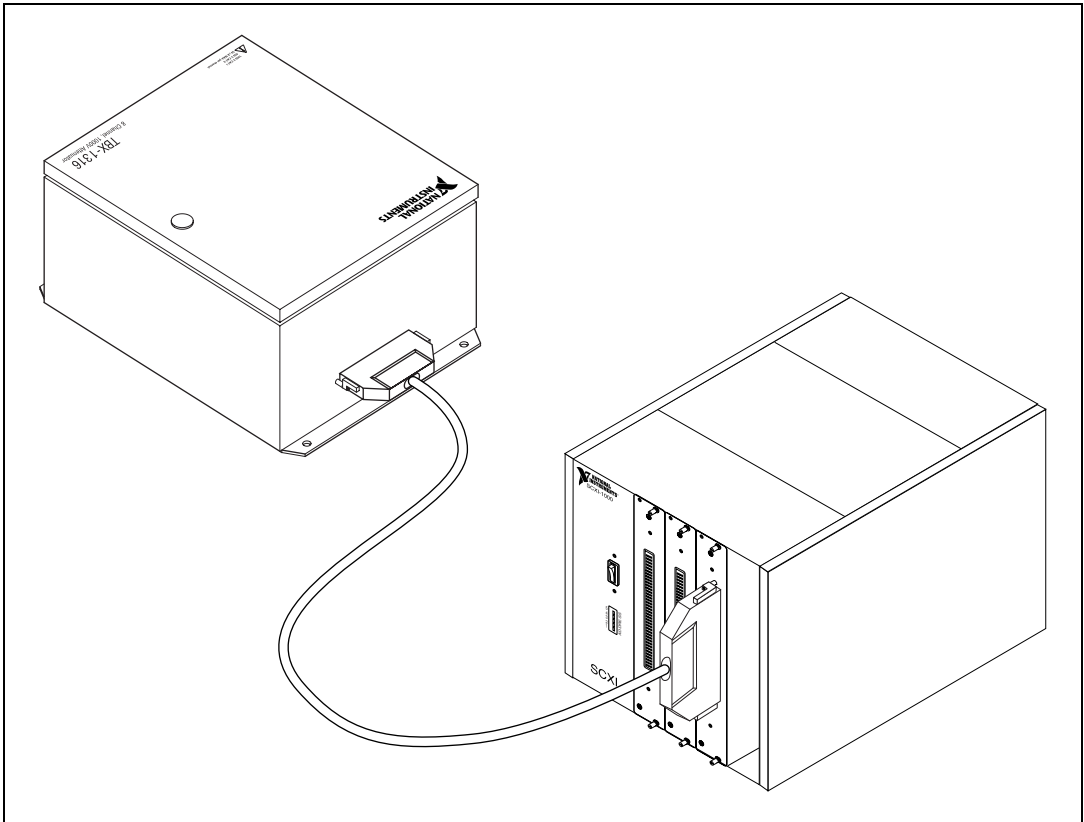

Figure 6. Completed Installation
7. Connect the other end of the cable assembly to the SCXI module front connector, and secure the cable by tightening the mounting screws. Figure 6 shows the completed installation.